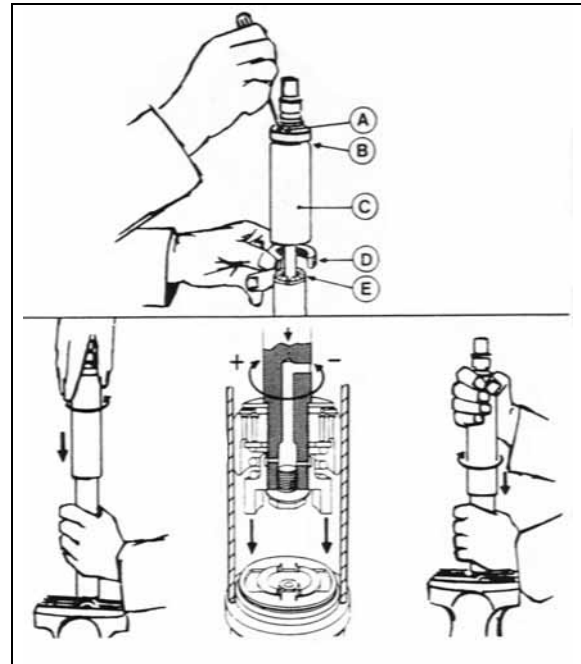

FIGURE 17: DAMPER
2. Fully close the damper while turning the dust cap or piston rod slowly CCW until it is felt that the cams of the adjusting nut engage in the recesses of the foot valve assembly (Fig. 17).
**Note:** In figure 17, if there is an indentation (B) in the dust cap (C) and the cover shows two holes (A), the damper is fitted with a bump rubber (D). If so, fully extend the damper and insert a round bar or screwdriver through the holes. Push the bump rubber down and remove. Remove the split plastic collar (E) (if fitted) from the piston rod.
**Note:** Where a bump rubber was installed, refit same inside the dust cap and by fully closing the damper, the rubber will seat again at top of the dust cap. Refit the split plastic collar E (Fig. 17)